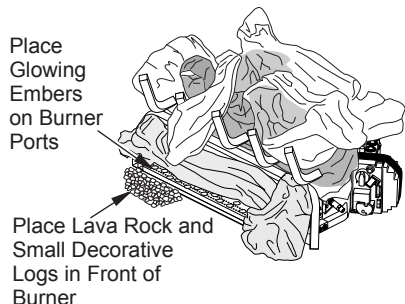

Figure 16 - Placement of Embers and Lava Rock
3. Place ember pieces, one at a time, over ports on flat burner (see Figure 16). **Do NOT place ember material anywhere else on the unit.** Use only ember material supplied with unit (12 one inch square pieces). Excessive ember material may produce carbon monoxide or soot.